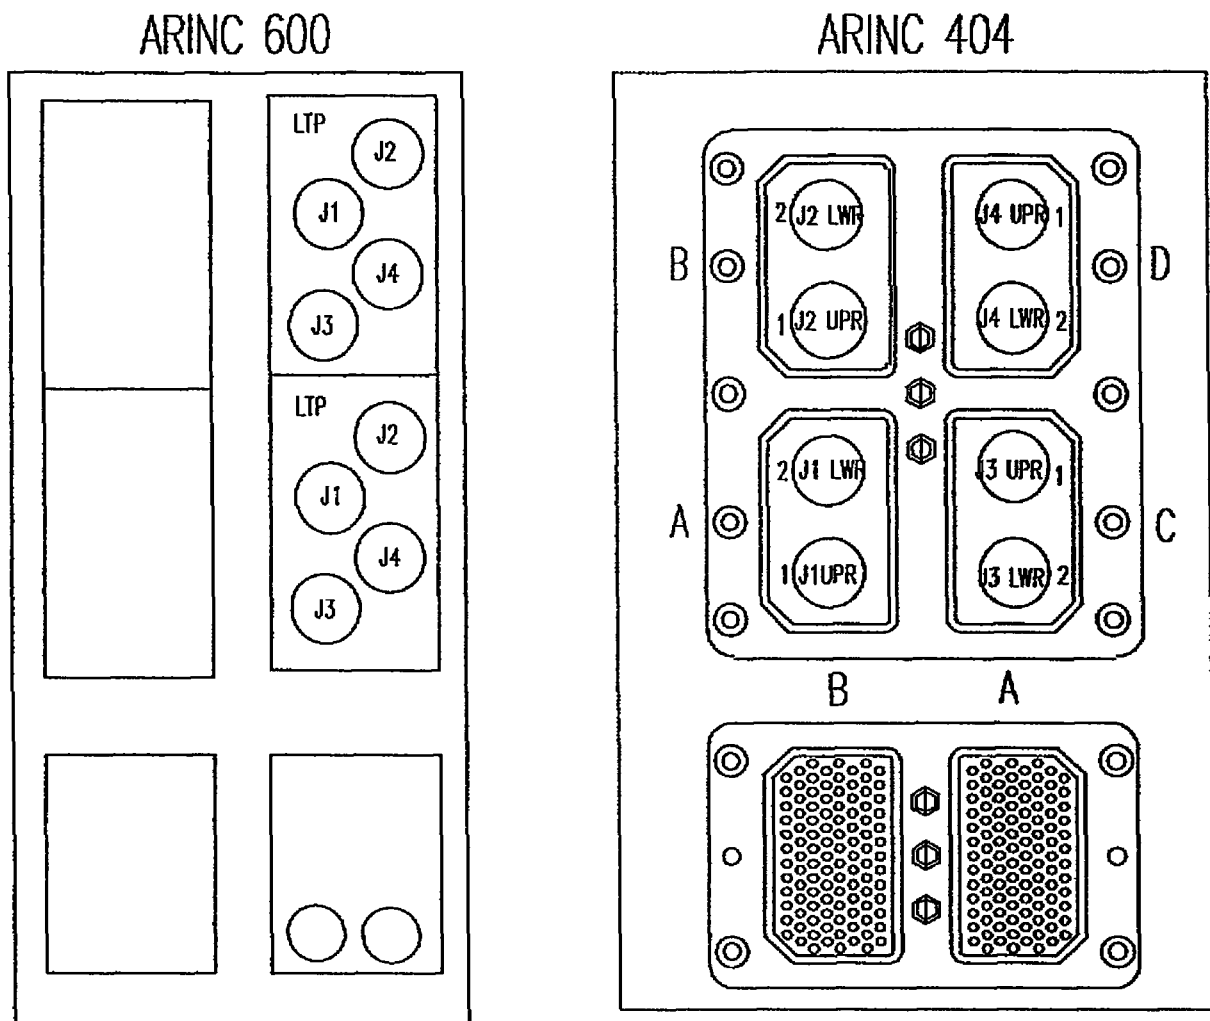

Figure 2. ARINC TCAS Connector Configurations
- (1) Remove the TCAS computer per the equipment manufacturer's removal procedure.
- (2) The ARINC connector block at the back of the rack will be exposed. The ARINC connector block will be either a 600 or 404 configuration (see Figure 2).
- (3) If the ARINC connector block is a 600 configuration, then continue with step 5.B.4. If the ARINC connector block is a 404 configuration then go to step 5.B.13.